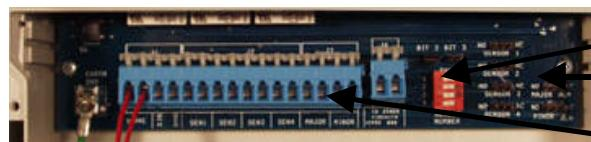

figure 3
- The wire terminations on the terminal block of the 4 Port Wireless Receiver are located in the middle of the receiver's printed circuit board. The function of each pair of terminal connections (Disable, Major alarm, etc.) is listed directly below the terminal block itself.(see fig.3).